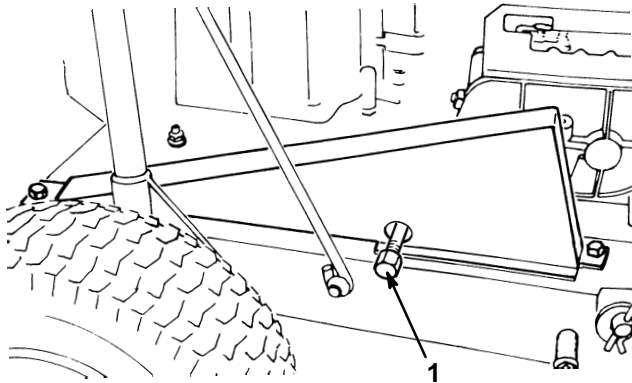

Figure 8
4. Place a drain pan below drain plug (Fig. 8). Remove drain cap. Allow all oil to flow into drain pan.